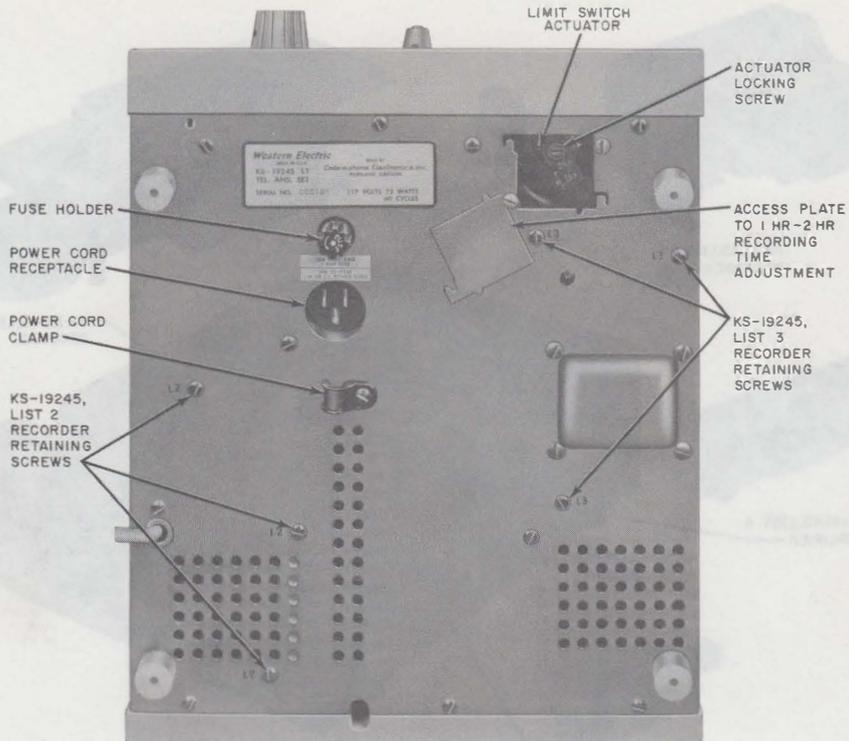

Fig. 2—KS-19245 List 1 Telephone Answering Set (Bottom View)
- (a) Remove three retaining screws located on bottom of set (Fig. 2).
- (a) Remove three retaining screws located on the bottom of set (Fig. 2).
- (3) Remove access cover (Fig. 2).
- (4) Adjust limit switch actuator (Fig. 2):
- (5) Replace access cover.